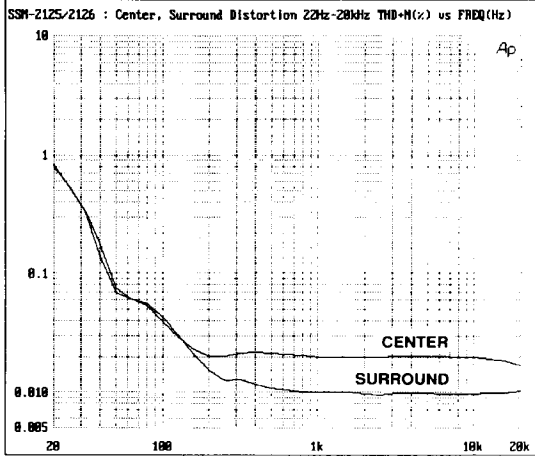

Figure 1. THD+N vs. Frequency, * Center and Surround Channels ($V_{IN} = 0$ dBd, $R_L = 100$ k Ω)
*80 kHz low-pass filter used for Figures 1 and 2.